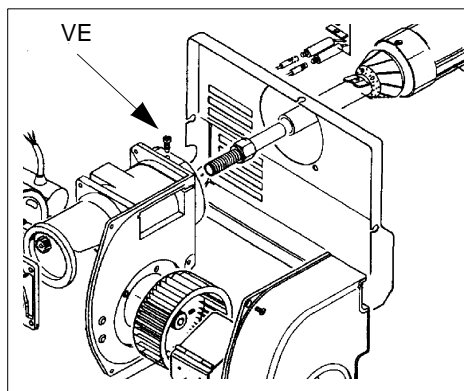
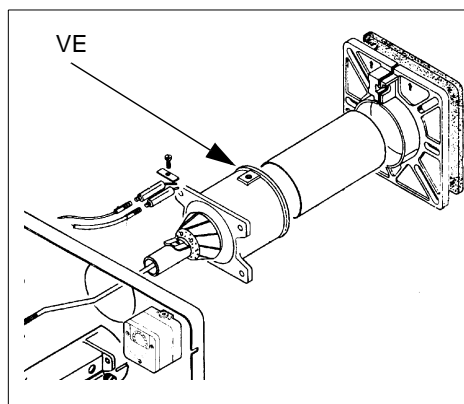
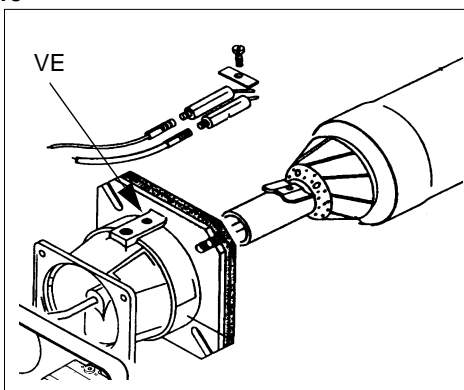

Fig. 26a
Fig. 26b
Fig. 26c
- Remove, check and clean the combustion head (see Fig. 26a, Fig. 26b, Fig. 26c);
Type S3 (Fig. 26a) and S5 (Fig. 26b)
Type S10 - S18 (Fig. 26c)